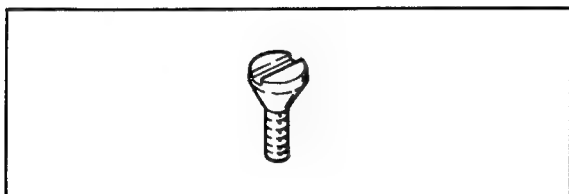
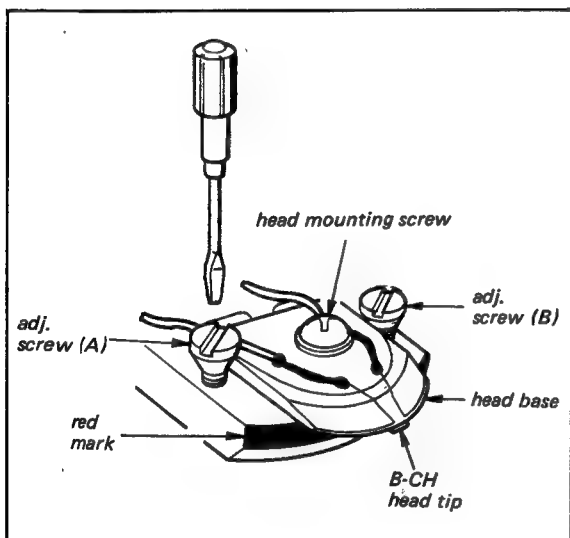
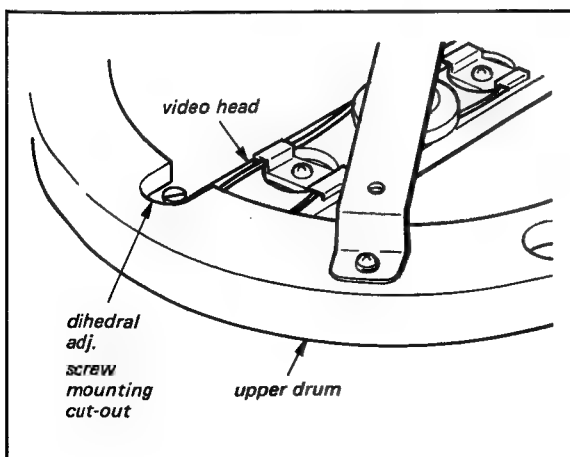

Fig. 7-11 Head dihedral adjust screw
Fig. 7-12 Dihedral adjustment (1)
Fig. 7-13 Dihedral adjustment (2)
23. Position the video head assembly as shown in Fig. 7-13. Install four angle adjustment screws (SONY Part No. 3-618-904-00) shown in Fig. 7-11 into both heads as shown in Fig. 7-12. Thread them in until slightly snug. Do not exert force.
See. Fig. 7-12.
25. Turn (a) screw in Fig. 7-12 CCW  $\frac{1}{4}$  turn and (b) screw CW  $\frac{1}{4}$  turn.
27. Turn (a) screw in Fig. 7-12 CW by  $\frac{1}{4}$  turn and (b) screw CCW by  $\frac{1}{4}$  turn. Repeat Steps 26 and 27 until displacement becomes invisible.